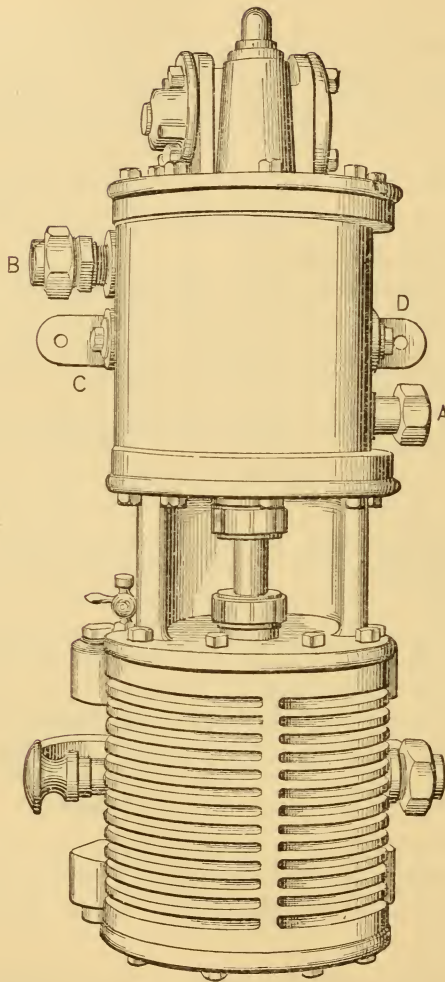

FIG. 39.—RIGHT AND LEFT-HAND PUMP.
Q. What is the difference between the nine and one-half inch pump shown in Fig. 39 and the one shown in Figs. 35 and 36.
A. Both, as shown in Fig. 39, are extended through to the other side of the pump for convenience in piping in case it is desirable to locate the pump on the left side of the engine.
Q. Explain the proper use of the connections as shown in Fig. 39.